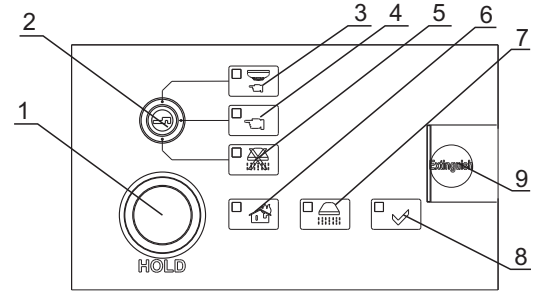

Fig.4
-  Indicator “Power supply” - Module is power supplied (pos.8, fig.4)
-  Common Indicator “Fire Condition 2nd Stage” – continuous red light (pos.6, fig.4)
-  Indicator “Manual Mode” – continuous yellow light (pos.4, fig.4)
-  Indicator “Manual-Auto Mode” – continuous yellow light (pos.3, fig.4)
-  Indicator “Disable Extinguishing” – continuous yellow light (pos.5, fig.4)
-  Indicator “Low Pressure” – fault condition Low pressure into the Extinguishing installation - continuous yellow light (pos.7, fig.4)
- Manual/Auto – Turns the secret keyswitch in position “Manual/Auto mode”. The LED is on (pos.3, fig.4);
- Manual Mode - Turns the secret keyswitch in position “Manual”. The LED is on (pos.4, fig.4).
- Disable Extinguishing - Turns the secret keyswitch in position “Disable Extinguishing. The LED is on (pos.5, fig.4);
- Hold Extinguishing – press button “HOLD”. The evacuation time is extended (pos.1, fig.4);
- press the button to activate the extinguishing (pos.9, fig.4).